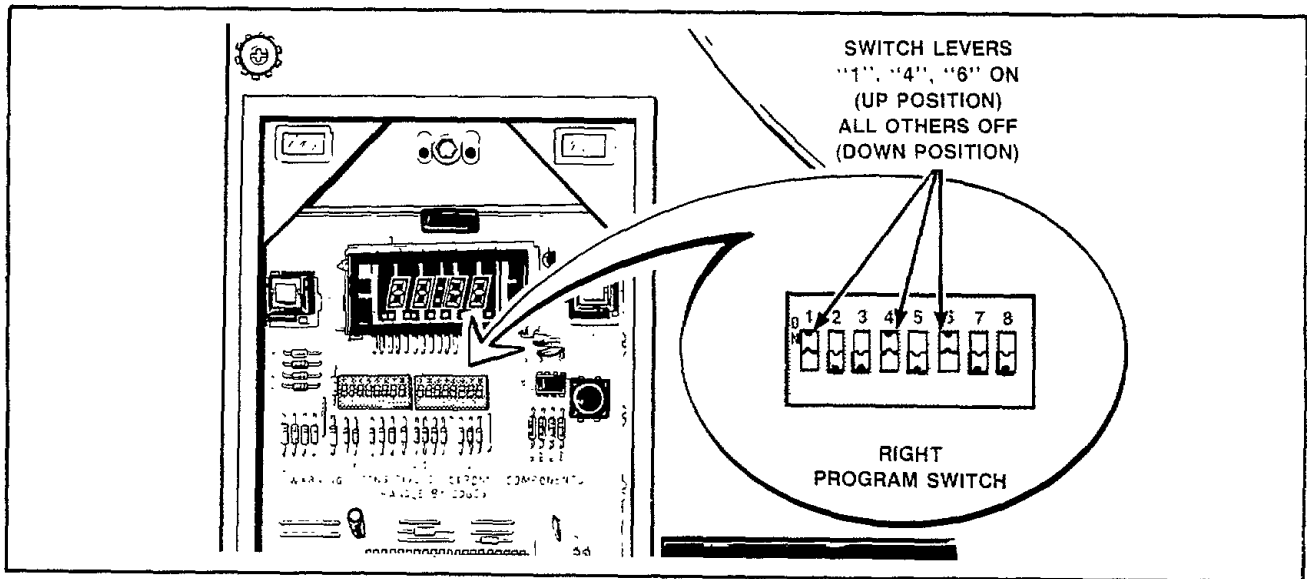

Figure 42
- Slide the right program switch levers 1, 4, and 6 up. *Figure 42.* All the other switches must be down. This mode allows you to check out the push buttons, beeper, and program code on the display.